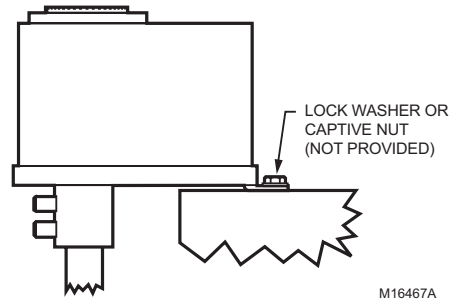

Fig. 3. Mounting ML7999.
1. Place the actuator over the shaft, see Fig. 3.